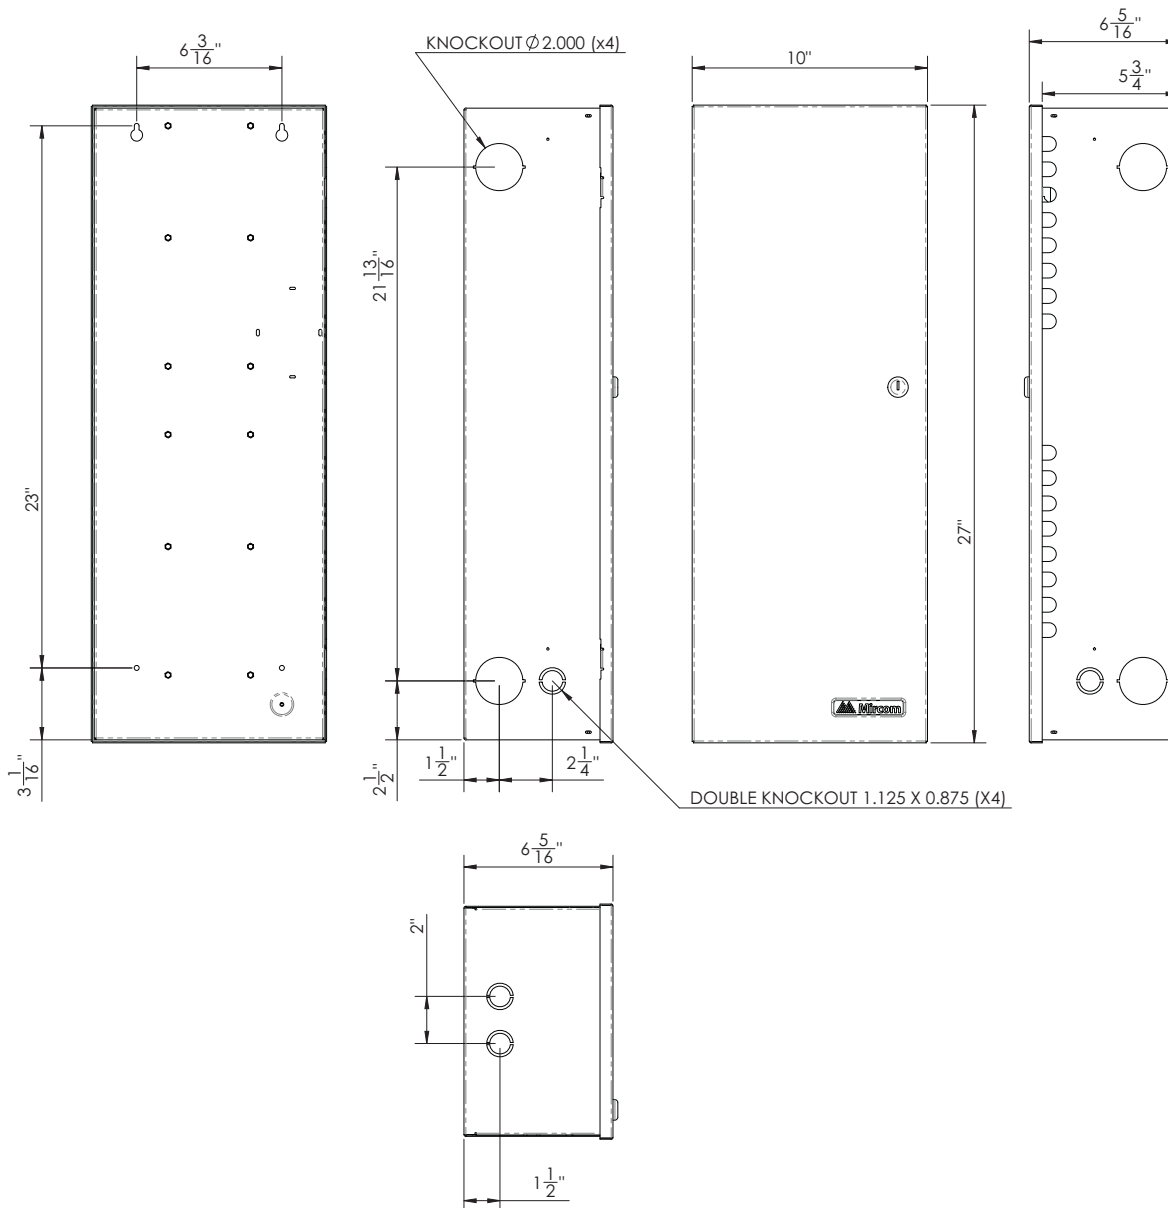

Figure 8. Box for the TX3-ER-8(-A/B) Elevator Restriction Unit
1. Using the back cover as a template mark the top two mounting hole locations 6 3/16" (157 mm) apart as shown in Figure 8.